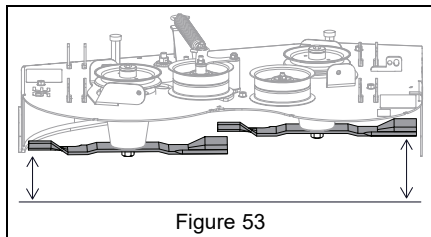

Figure 53
2. Raise deck to 7.6 cm (3.0") cutting height. See Figure 53.